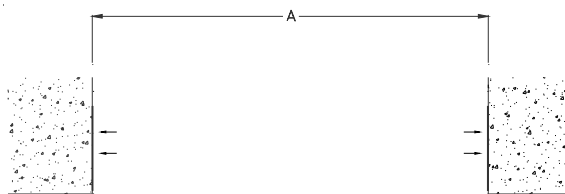

Figure 9
STEP 13. Spread non-curing mastic on the substrate along both sides of the joint (see Figure 9). Refer to the project details and the shop drawings to determine the placement and the width of the mastic. For Floor-to-Wall installations refer to the project details and the shop drawings to determine the height to which the mastic must be spread on the wall.